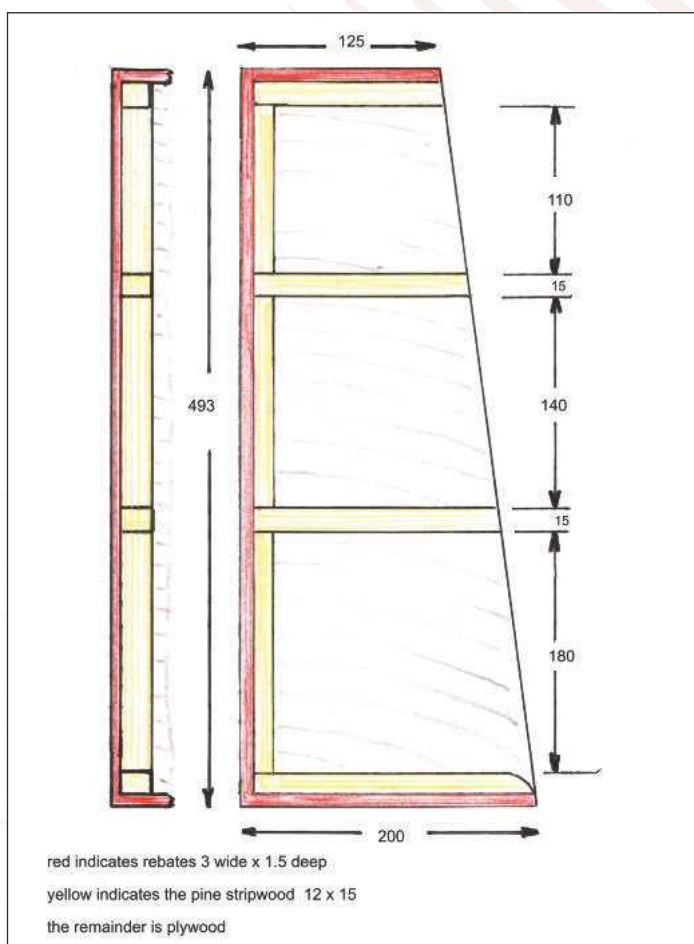

Fig.2 Toy display unit – sides
**4** Cut the stripwood into 12 x 15mm sections and then into the lengths as shown in Fig.2